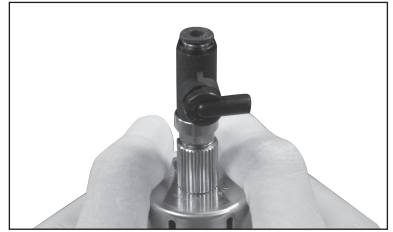

Fig. 3
(3) Hold PANA SPRAY Plus firmly in your hands, and insert the ON/OFF Valve straight into it. (Fig. 3)